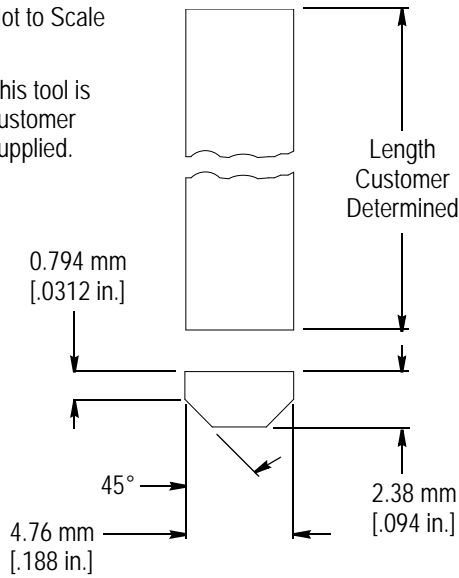

Figure 3
7. Check the orientation of the keys in the keying cavities. An aligning tool similar to the tool shown in Figure 3 can be used to rotate a key that is slightly out of orientation. This type of tool can also be used to prevent a key from twisting in the connector when mounting it to the printed circuit (pc) board.